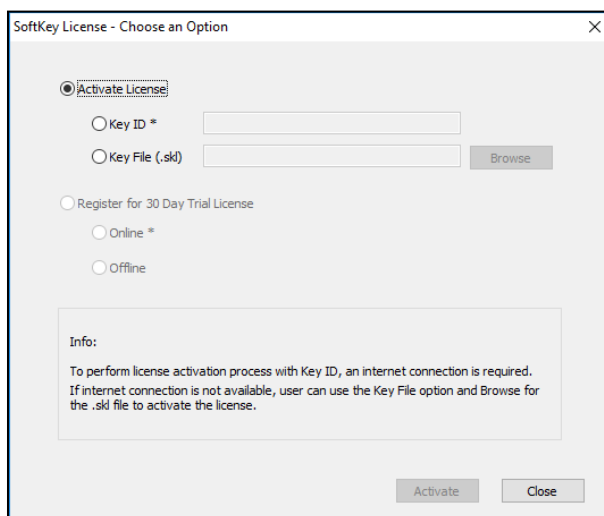

Figure 5. Activate License
- a. From the **Choose an Option** page (Figure 5), select **Key ID**.
- b. From the **Choose an Option** page (Figure 5), select **Key File (.skl)**.